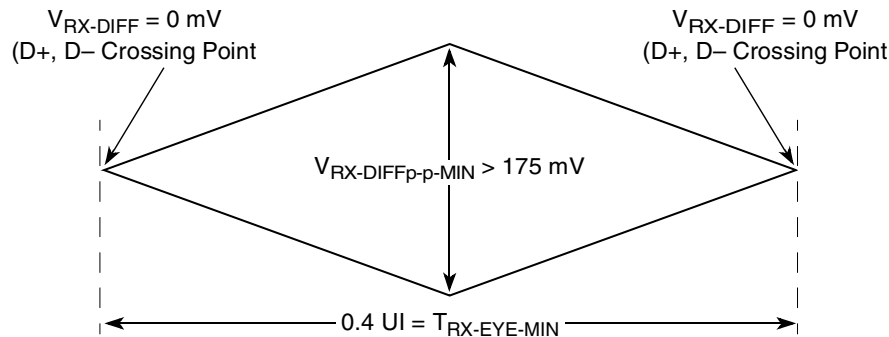
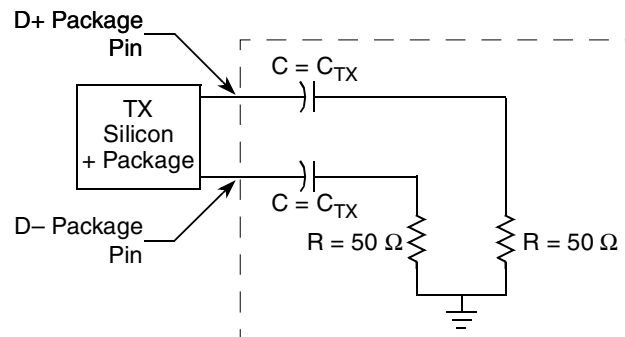

Figure 70. Minimum Receiver Eye Timing and Voltage Compliance Specification
Figure 71. Compliance Test/Measurement Load
2. Specified at the measurement point and measured over any 250 consecutive UIs. The test load in Figure 71 should be used as the RX device when taking measurements (also refer to the Receiver compliance eye diagram shown in Figure 70). If the clocks to the RX and TX are not derived from the same reference clock, the TX UI recovered from 3500 consecutive UI must be used as a reference for the eye diagram.
4. The Receiver input impedance shall result in a differential return loss greater than or equal to 15 dB with the D+ line biased to 300 mV and the D- line biased to -300 mV and a common mode return loss greater than or equal to 6 dB (no bias required) over a frequency range of 50 MHz to 1.25 GHz. This input impedance requirement applies to all valid input levels. The reference impedance for return loss measurements for is 50 ohms to ground for both the D+ and D- line (that is, as measured by a Vector Network Analyzer with 50 ohm probes - see Figure 71). Note: that the series capacitors CTX is optional for the return loss measurement.
The RX eye diagram in Figure 70 is specified using the passive compliance/test measurement load (see Figure 71) in place of any real PCI Express RX component.
Note: In general, the minimum Receiver eye diagram measured with the compliance/test measurement load (see Figure 71) will be larger than the minimum Receiver eye diagram measured over a range of systems at the input Receiver of any real PCI Express component. The degraded eye diagram at the input Receiver is due to traces internal to the package as well as silicon parasitic characteristics which cause the real PCI Express component to vary in impedance from the compliance/test measurement load. The input Receiver eye diagram is implementation specific and is not specified. RX component designer should provide additional margin to adequately compensate for the degraded minimum Receiver eye diagram (shown in Figure 70) expected at the input Receiver based on some adequate combination of system simulations and the Return Loss measured looking into the RX package and silicon. The RX eye diagram must be aligned in time using the jitter median to locate the center of the eye diagram.
The reference impedance for return loss measurements is 50. to ground for both the D+ and D- line (that is, as measured by a Vector Network Analyzer with 50. probes—see Figure 71). Note that the series capacitors, C_{TX}, are optional for the return loss measurement.